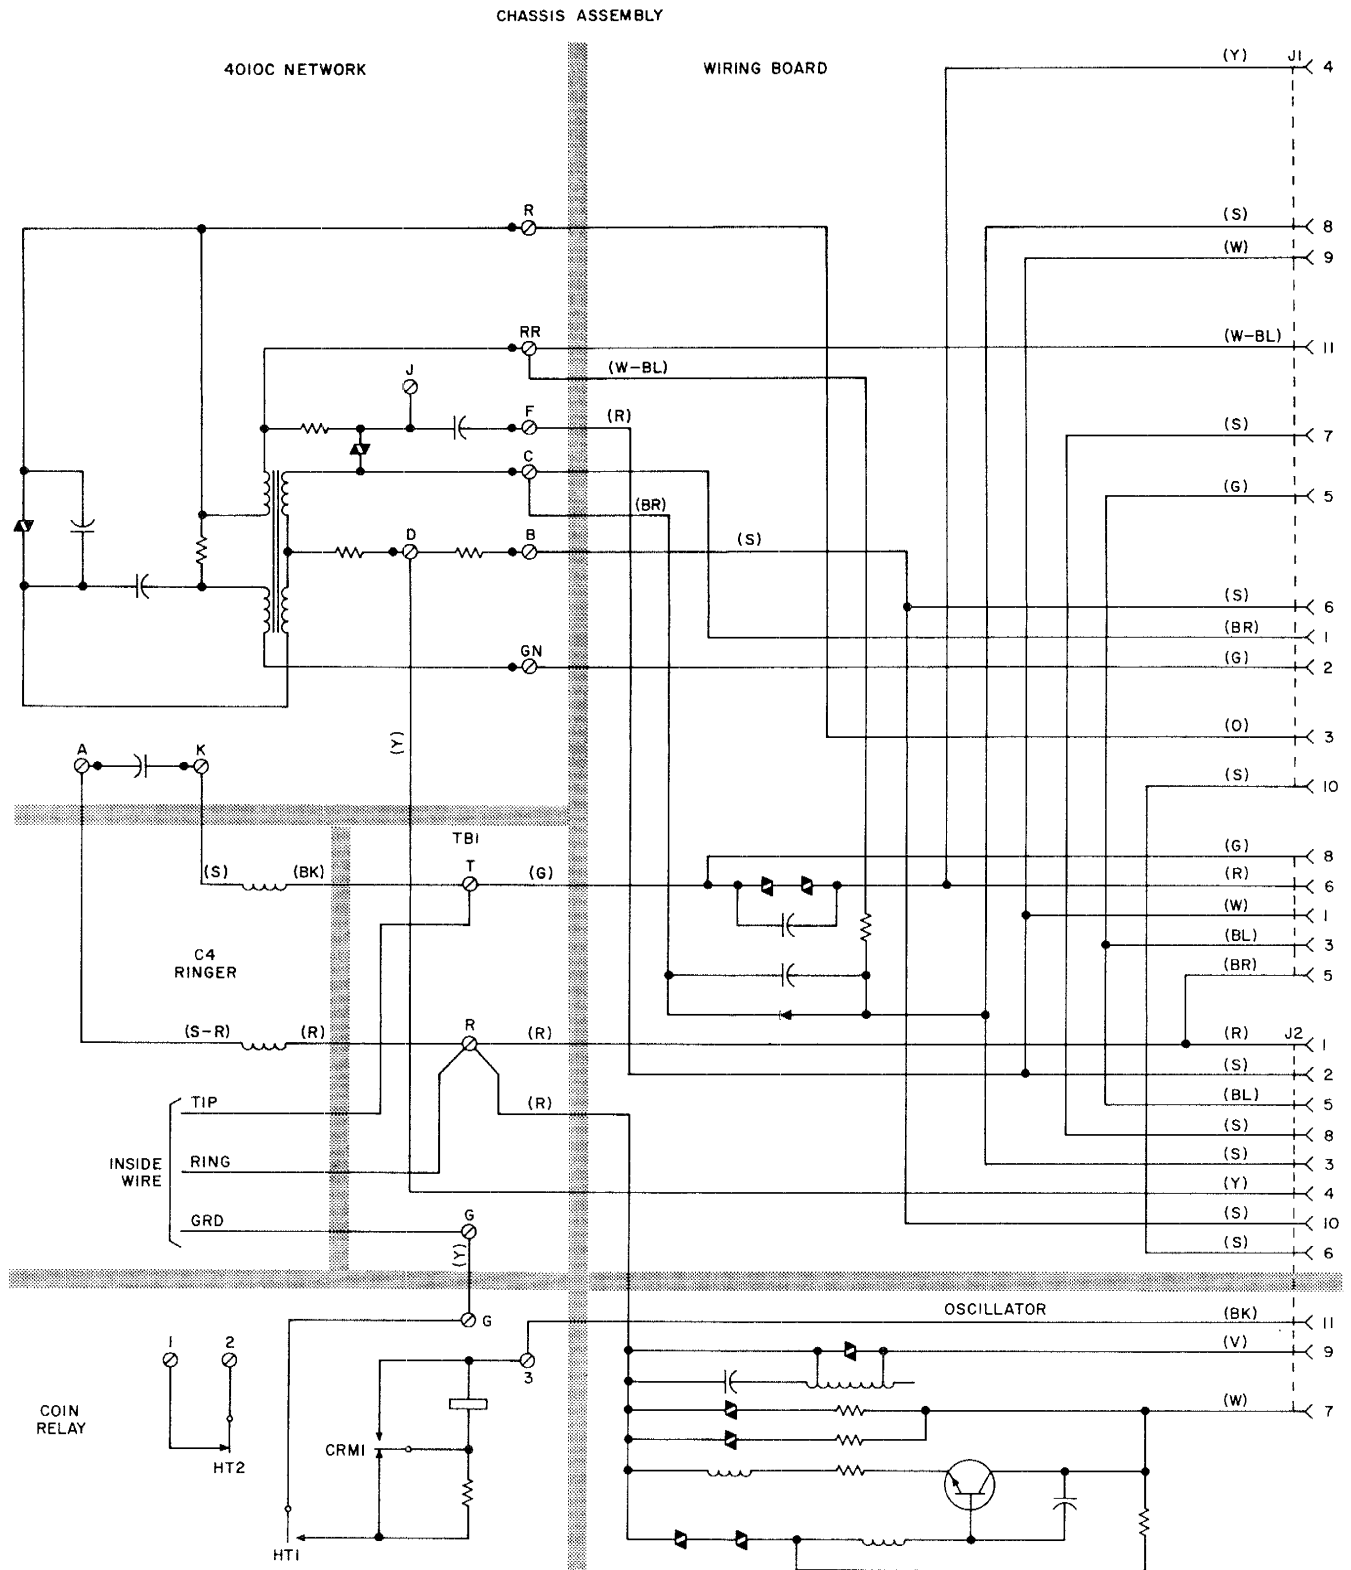

Fig. 1—1A2 or 2A2 Coin Telephone—Connections (Sheet 1)
1.02 Fig. 1 shows connections for 1A2 or 2A2 coin telephone.